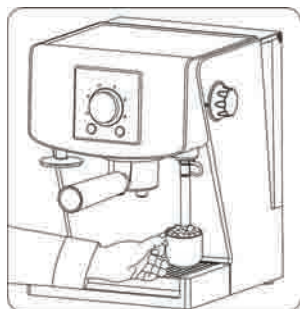

Fig. 8
- 10.6. Then put the steam wand into a milk jug in such a way (**Fig. 8**), that the wand is approx. 1/2 cm below the milk surface. Activate the steam release by setting the steam release knob **(12)** again to the  position, that is turn it counterclockwise in such a way that the  symbol coincides with the mark on the casing of the espresso machine.
- Turn off the steam function immediately, when milk is warmed up to the temperature of 60–65°C by setting the steam release knob (12) to the **OFF** position, that is turn it clockwise in such a way that the **OFF** symbol coincides with the mark on the casing of the espresso machine.
- Remove the jug. Wipe the steam wand (10) and its tip immediately with the use of clean, wet cloth and then rinse the steam wand with the small amount of steam acting just like before the process of milk foaming.